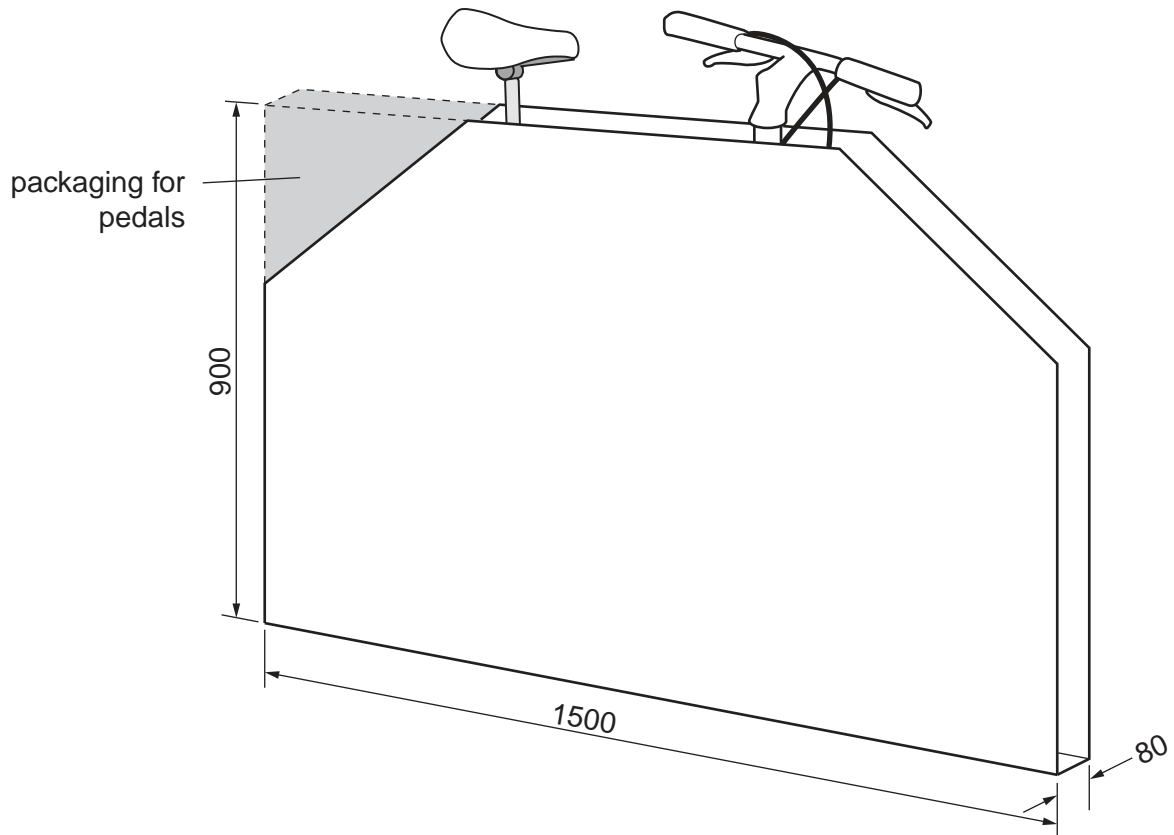

Fig. 10
- 9 Fig. 10 shows an incomplete design for the cardboard packaging that will be used to protect the new Tiger Mountain Bike made by Wild Cat Cycles.
- (c) Using notes and sketches, **develop** a design for packaging the pedals. This must be capable of being attached to the main packaging, as shown in Fig. 10, without the use of glue or any other additional materials. [16]